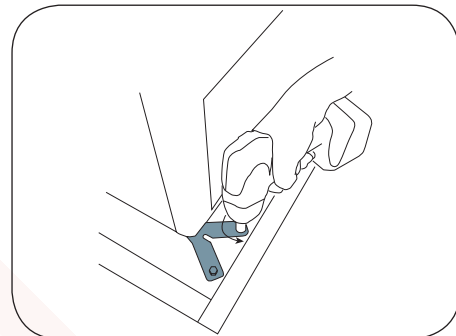

Figure 2. Remove Shipping Brackets
To avoid injury and damage to the table, handle only as indicated in Figures 2 through 16. Do not handle as shown in Figures 8 through 10.
2. Remove the 4 steel shipping brackets securing the table to the pallet (Figure 2). The brackets hook onto the table levelers to hold the table securely to the pallet. Remove the 2 bolts from each bracket using a 7/16" socket or wrench. Take care not to scratch the unit when using the driver or turning the wrench. Remove brackets from levelers once bolts are removed.